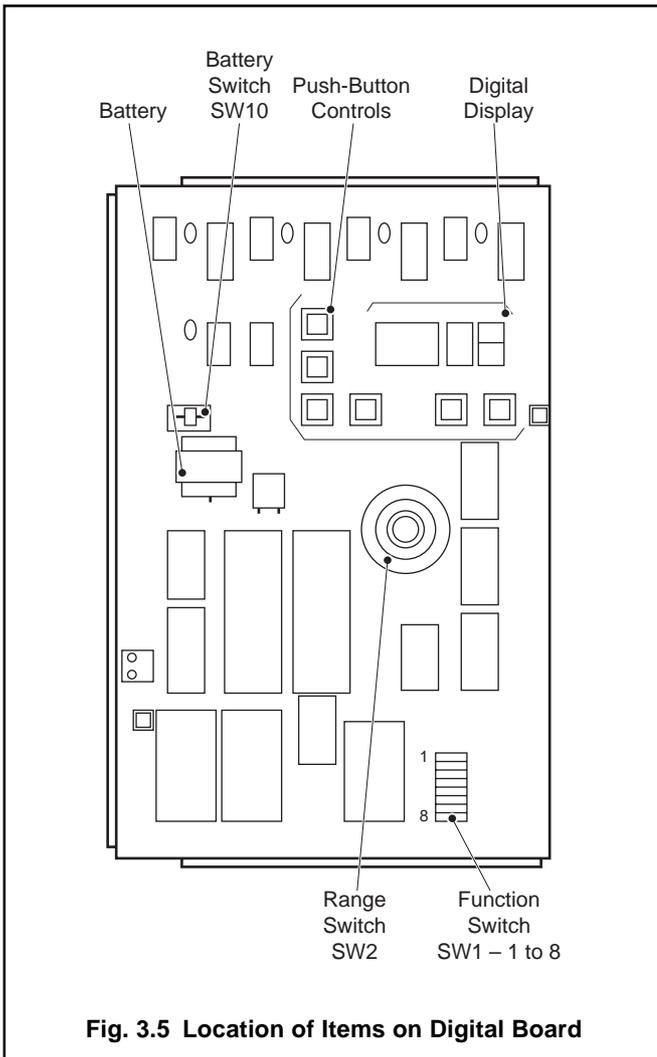

Fig. 3.5 Location of Items on Digital Board
- c) Switch the battery switch SW10 to 'ON' – see Fig. 3.5.
#### 3.2.3 Circuit Board Function Switch SW1 (Fig. 3.5)